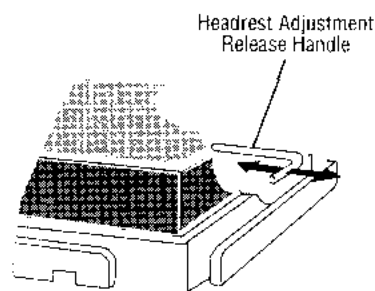

Figure 4-7. Headrest Positioning
1. See Figure 4-7. Locate the release handle (under the right side of the headrest) and pull to release (spring-loaded).